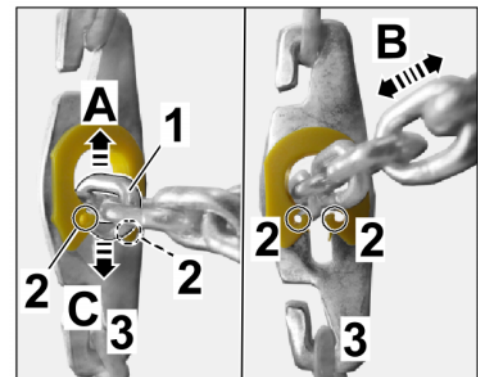
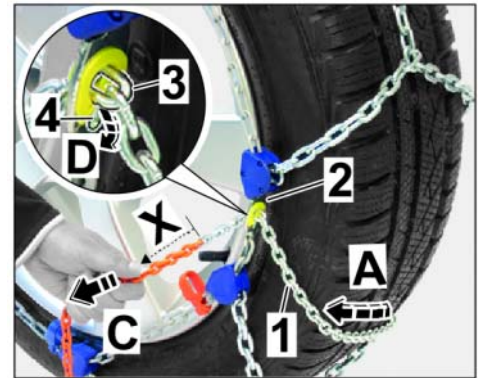

Figure 9
Figure 11
- 2.2.3 Guide chain link of the tensioning chain out of the lock in the slot on the locking plate ($\Rightarrow$ Figure 9 -A-).
To do this, press the chain link past the lock in the slot on the locking plate ($\Rightarrow$ Figure 9 -2-).
- 2.2.5 Pull the tensioning chain tightly through the locking plate (⇒ *Figure 11 -C-*).
Check that the colored part of the tensioning chain (⇒ *Figure 11 -X-*) is pulled completely through the locking plate.
Engage chain link of the tensioning chain in the slot and lock on the locking plate (⇒ *Figure 11 -D-* or ⇒ *Figure 9 -C-*).